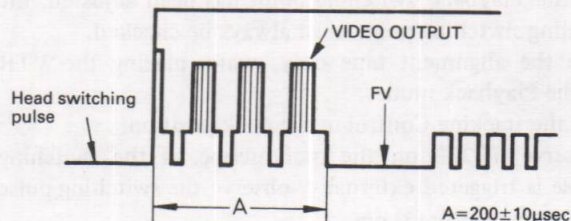
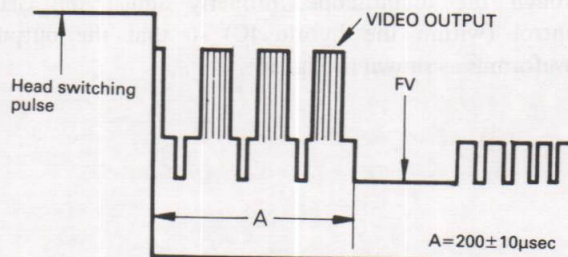

Figure 59
Figure 60
- ① Place the VTR in the VS-FWD mode.
- ② Observe TP203 through the oscilloscope. If the head switching pulse is triggered externally, observe this pulse at the positive side.
- ③ Fine adjust the rV-2 Control (R713) so that the duration of the artificial vertical sync signal becomes as shown in Fig. 59.
- ④ Then observe head switching pulse at negative side.
- ⑤ Fine adjust the FV-1 Control (R712) so that the duration of the artificial vertical sync signal becomes as shown in Fig. 60.
- ⑥ Check to see that the picture on the TV monitor is stable without any swing.
- ⑦ If the picture swings while observing the monitor screen, fine adjust the picture with either FV-1 Control (R712) or with FV-2 Control (R713) until the picture is stable.